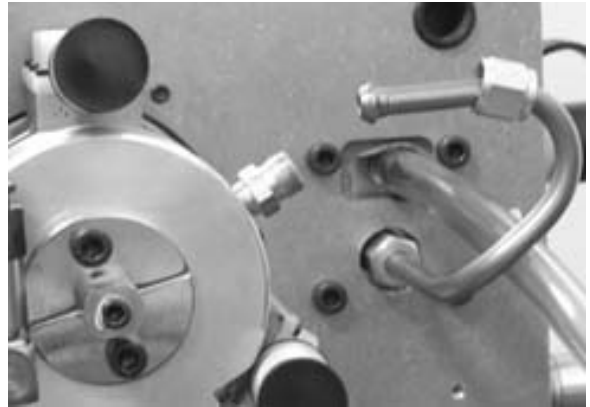

Figure 69.
5. See Figure 69. With the cartridge pump assembly positioned so the high pressure tube can be connected, position the assembly in the reservoir cover.